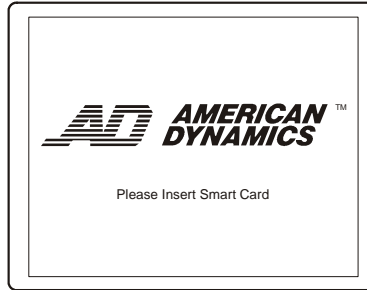

Figure 3.1: Welcome screen
1. At the welcome screen (figure 3.1) insert the smart card.